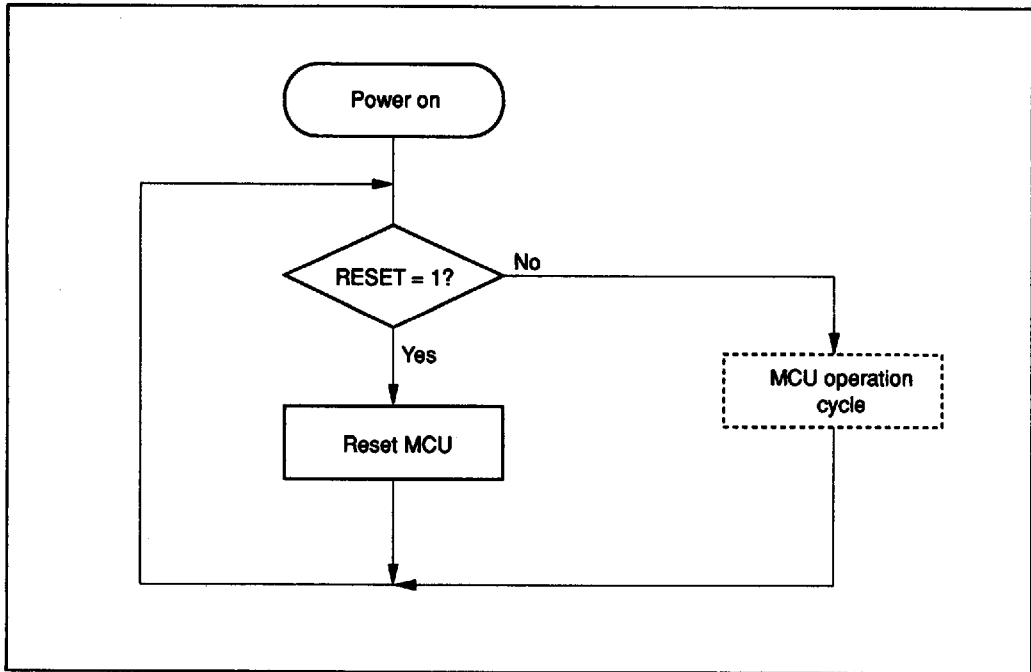

Figure 20 MCU Operation Flowchart (Power On)
**MCU Operation Sequence:** The MCU operates in the sequence shown in figures 20 to 22. It is reset by a RESET input, regardless of its state.